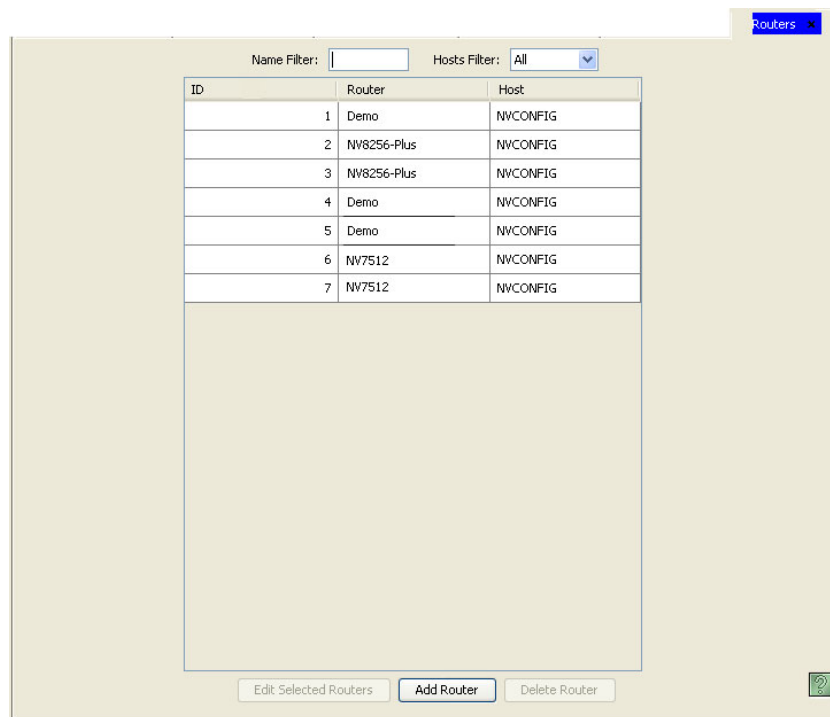

Figure 12-3. Routers Page
- 2 From the navigation area, select the ‘Configuration’ pane and then ‘Routers’. The ‘Routers’ page displays, as shown in Figure 12-3. All routers and master control processors currently defined in the system are listed.